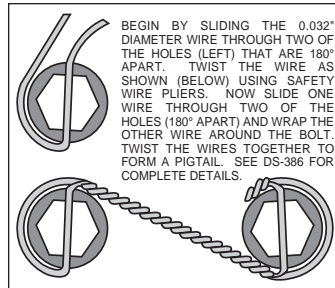

Figure 4. Safety Wire Diagram
- Using an alternating sequence, apply red *Loctite*® 271 to the threads and torque bolts to 155 **in-lb**. For an added measure of security, the bolts may be safety wired using standard 0.032 inch diameter stainless steel safety wire as shown in Figure 4. Refer to Wilwood's data sheet DS-386 for complete safety wire installation instructions.